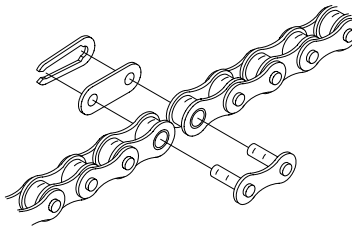

Figure 6 Chain link
- Connect the sprockets with the drive chain, shorten to a suitable length and join together with the chain link provided in the hardware bag. To shorten the chain, punch out the pin that will leave an inside link nearest to the desired length. Connect the chain around the sprockets using the chain link (Figure 6).